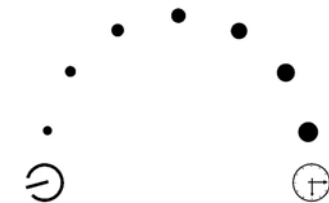

Figure 3 :Temperature scale and selection of particular operating mode
2. Turn the knob to choose the desired temperature. Around the knob there are dots representing the scale, for temperatures ranging from 15°C to 30°C. As illustrates in figure 3. Use this scale to set the desirable temperature.